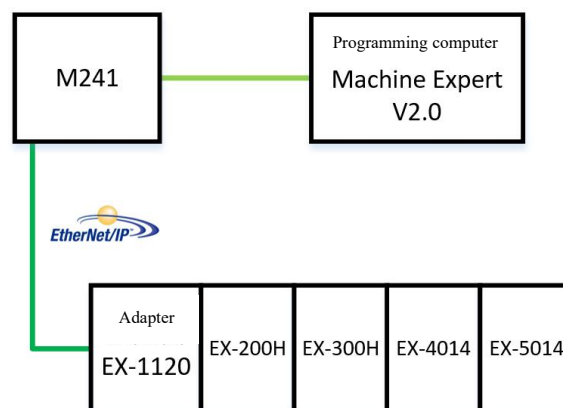

Figure 5-7-1 Communication connection diagram
1. Communication connection diagram, as shown in Figure 5-7-1